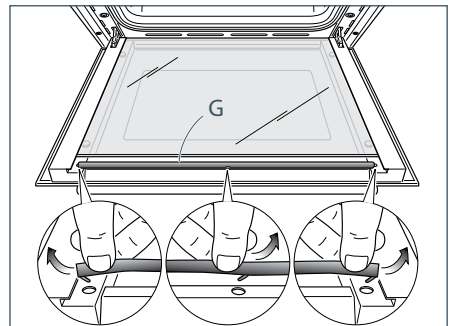

Fig.81d
- Remove the seal "G" by unhooking the three fixing hooks (Fig. 81d).